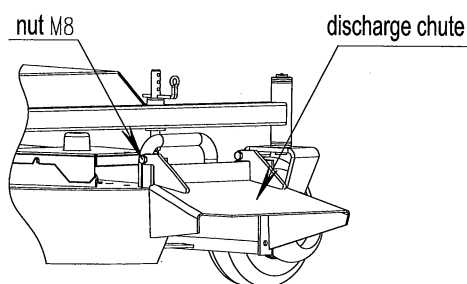

FIG 7
- Discharge Chute: Loosen two M8 nylon nuts attaching discharge chute. Lower the discharge chute into position. Retighten nylon nuts until chute is snug but can pivot freely. See FIG7